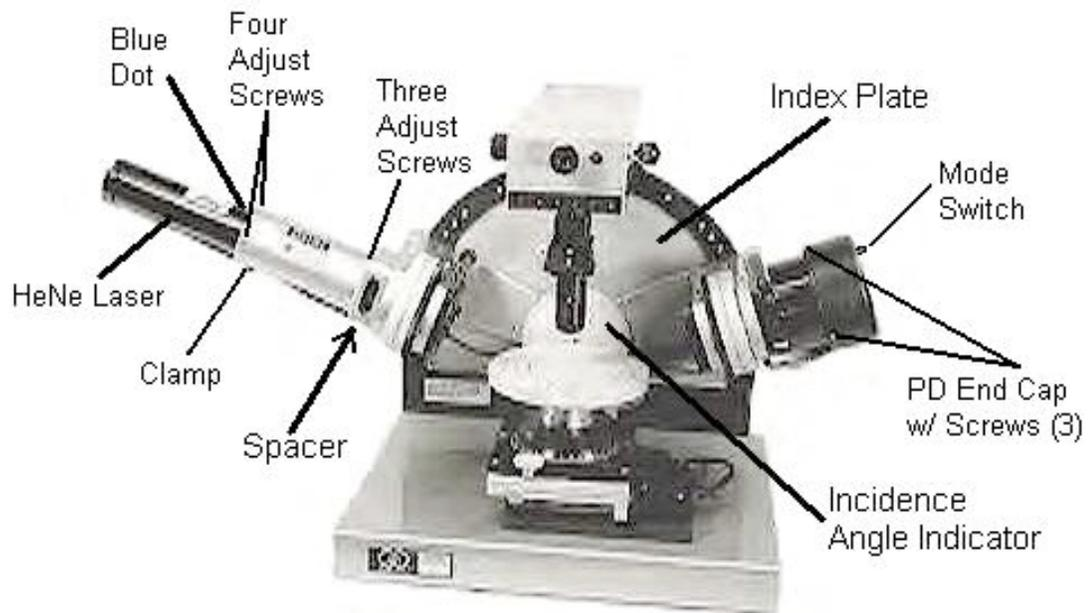
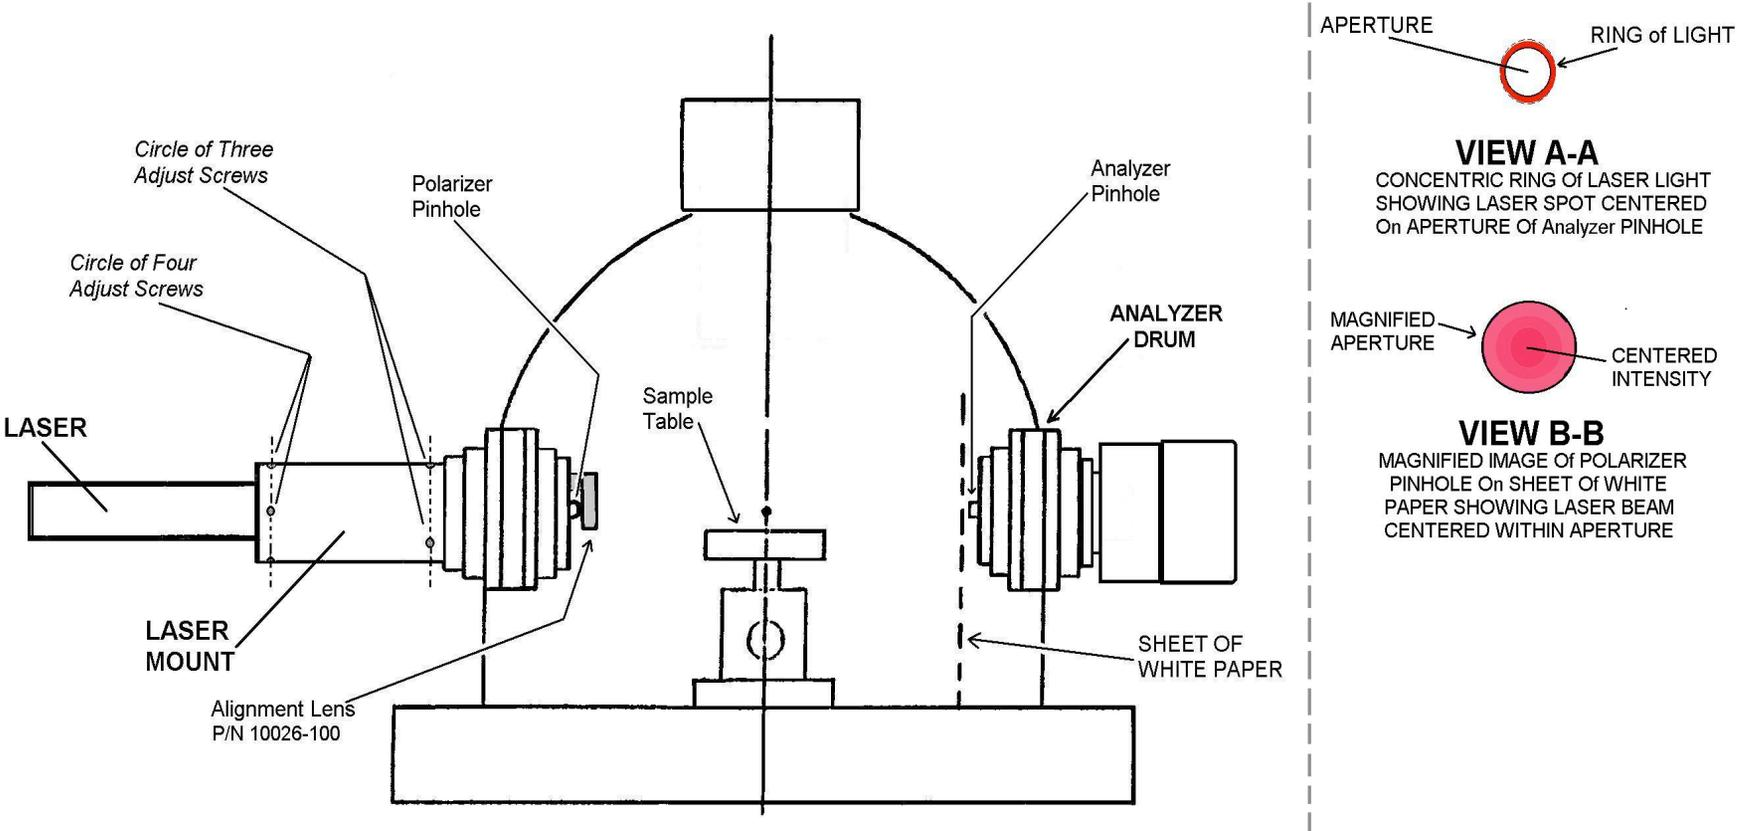

Figure 1. Laser Removal and Installation
Figure 2. Laser Alignment
Detach instrument power supply from the rear of the index plate (Figure 1) by removing four screws, one at each corner of power supply base plate. Carefully lower the instrument power supply to surface of the work area.
On the rear of the index plate (Figure 1), locate the large knurled screw at the top center of the power supply base plate. Loosen the knurled screw sufficiently to enable the top of the instrument power supply to swing free from the backside of the index plate. Gently lay the power supply down.
- 2.4 Loosen screw at the center of incidence angle indicator (Figure 1) and move indicator counterclockwise to allow access to the laser cable. Remove all laser cable clamps and cut any plastic ties that secure the laser cable to other wires or cables. Withdraw the laser cable (with attached connector) through the opening located at the bottom of the index plate.
- 2.5 Using a 3/32-inch hex key, loosen only the top screw of the set of three adjust screws (Figure 1) on the laser mount. Then, loosen only the top and front hex screws of the set of four adjust screws (Figure 1).
- 3.2 Insert new laser, with blue (decal) dot up, into the mounting arm until the forward end of blue dot (Figure 1) is at the edge of the laser mounting arm.
- 3.3 Hold the laser in position and lightly tighten the top screw of the set of three adjust screws (Figure 1), and also lightly tighten the top and front screws of the set of four adjust screws (Figure 1) loosened earlier in Step 2.5.
- 4.1 Plug the line cord back into the available AC Voltage outlet. Turn key-operated Power Switch to ON. Do not look into laser beam exit aperture (polarizer pinhole) (Figure 2).
- 4.2 Place a small sheet of white paper near the sample table (Figure 2) in the expected optical path of the laser beam. Look to see if any laser beam emission through the polarizer pinhole is being imaged on the white paper. If no laser beam emission is seen, then adjust the (set of) three screws (Figure 1) until some beam emission is seen. Maintain the screws in light contact with the laser assembly.
- 5.1 Position polarizer and analyzer arms at 90° angle of incidence like shown in Figure 2. Be sure that black knurled screw clamp on the back of each arm is snug tight.
- 5.3 Fasten P/N 10026-100 Alignment Lens (Figure 2) over the aperture of the polarizer pinhole using the captive screw. (The captive screw goes into the threaded hole that is about 20 mm. away from the polarizer pinhole near the “10 o’clock” position.)
- 5.4 Rotate the alignment lens downward in contact with the aperture of the polarizer pinhole. On the sheet of white paper (Figure 2), observe the projected image of the polarizer pinhole (magnified approximately 25 times). See View B-B as in Figure 2. Use the three adjust screws (Figure 1 and Figure 2) to center the laser beam within the polarizer aperture.
- 5.6 Using the four adjust screws (Figure 1 and Figure 2), center the laser beam spot on the aperture of the analyzer pinhole, as in View A-A (Figure 2).
- 6.1 If not already done, the dedicated computer should be powered-off, and the interface cable should be disconnected at the place where it plugs into the ellipsometer. Polarizer and analyzer arms must remain at 90° angle of incidence. The Mode Switch (Figure 1) should be set in the “**AS**” (middle) position.
- 6.2 Set the Analyzer Drum (Figure 2) to **105°**. (If your drum is not fully labeled for 100°, 110°, 120° and so on; then just locate the place on the drum that is 15 scale divisions beyond the 90° mark.)
- 6.3 Determine if the laser has the adjustable variable attenuator. If it is present, the variable attenuator will be accessible at the spacer (Figure 1) on the laser mount. Inside the cavity of the spacer there should be visible a push/pull set of two 1/16-inch hex screws (set screw and cap screw). If both of these hex screws are not visible, then you probably have a laser with the fixed-version attenuator or no attenuator at all, and you should skip to **Section 7.0**. Otherwise, proceed as follows.
- 7.1 Loosen and remove the two screws on either side of the Mode Switch toggle. Locate the three screws (120° apart) along the rim of the PD End Cap (Figure 1). Loosen these screws a few turns and pull the PD End Cap away from the end of the analyzer/ellipsometer.